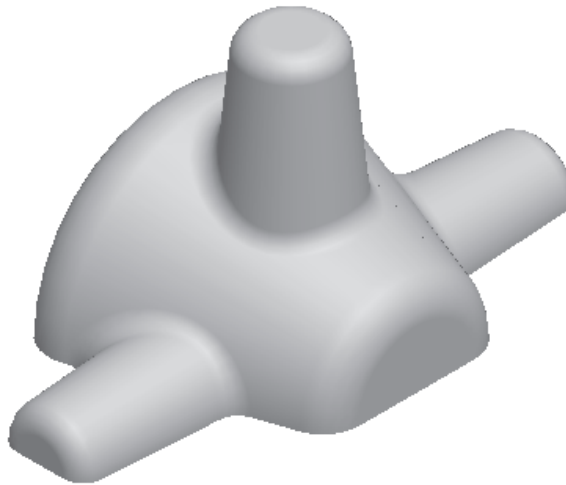
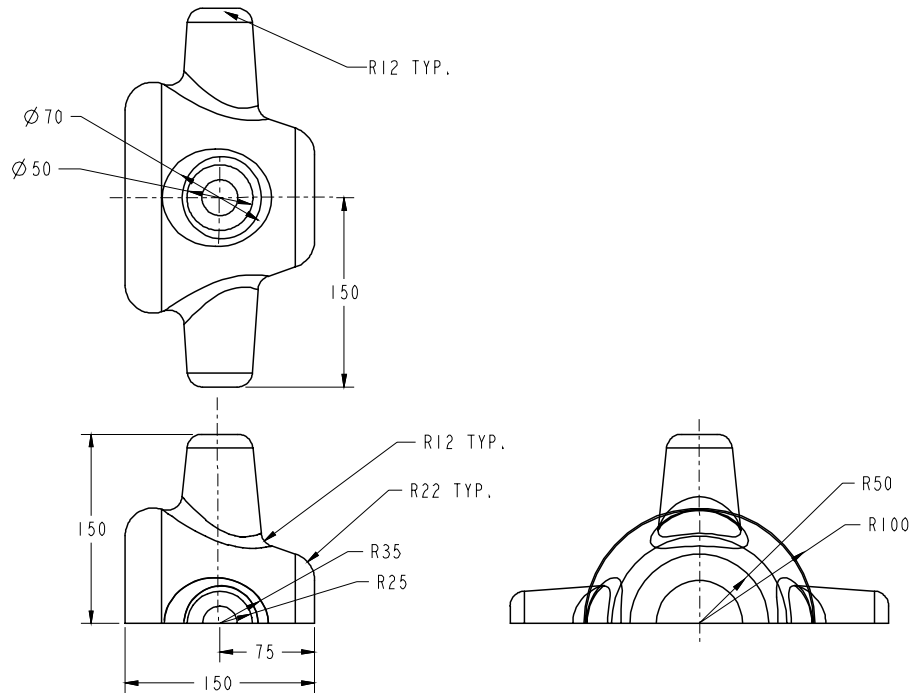

Figure 14-69 Isometric view of the surface model
Figure 14-70 Top view, front view, and the right-side view of the surface model
In this tutorial, you will create the surface model shown in Figure 14-69. The orthographic views of the surface model are shown in Figure 14-70. **(Expected time: 45 min)**
- Examine the model and determine the number of features in it, refer to Figure 14-70.